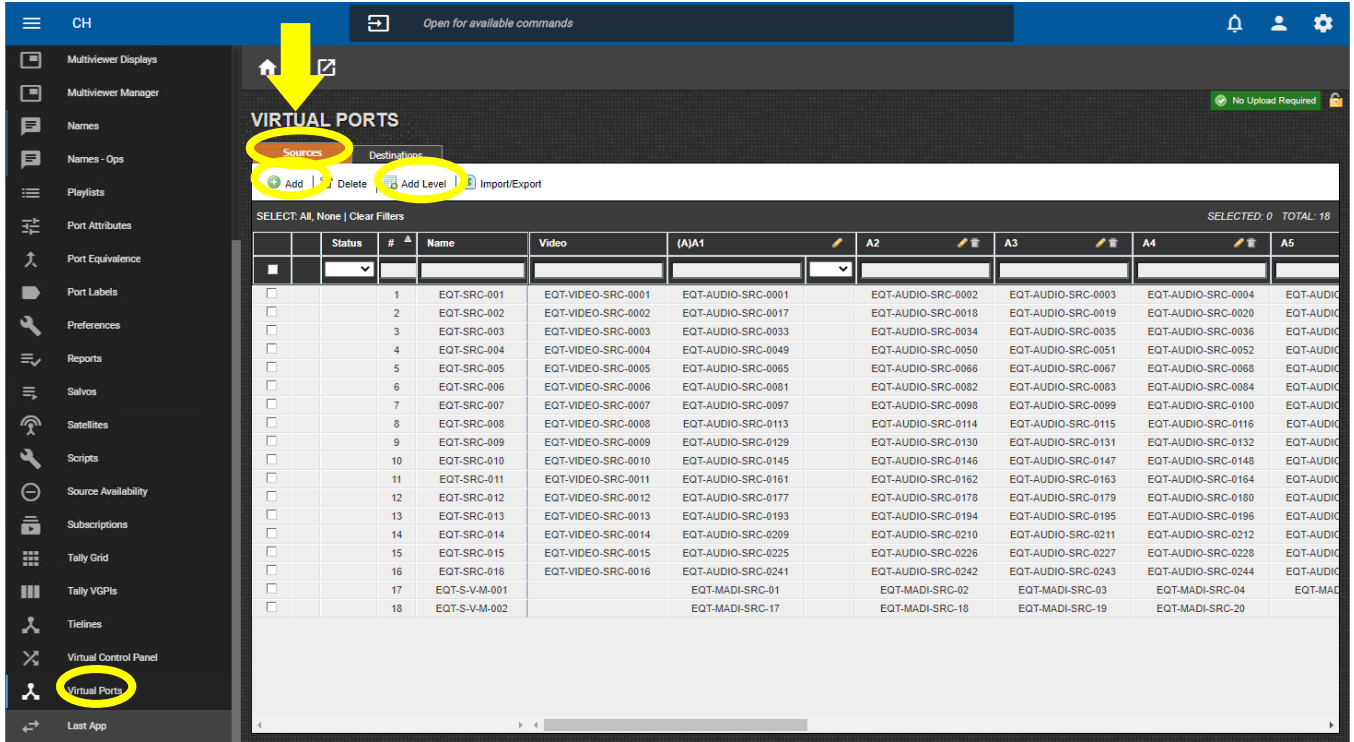
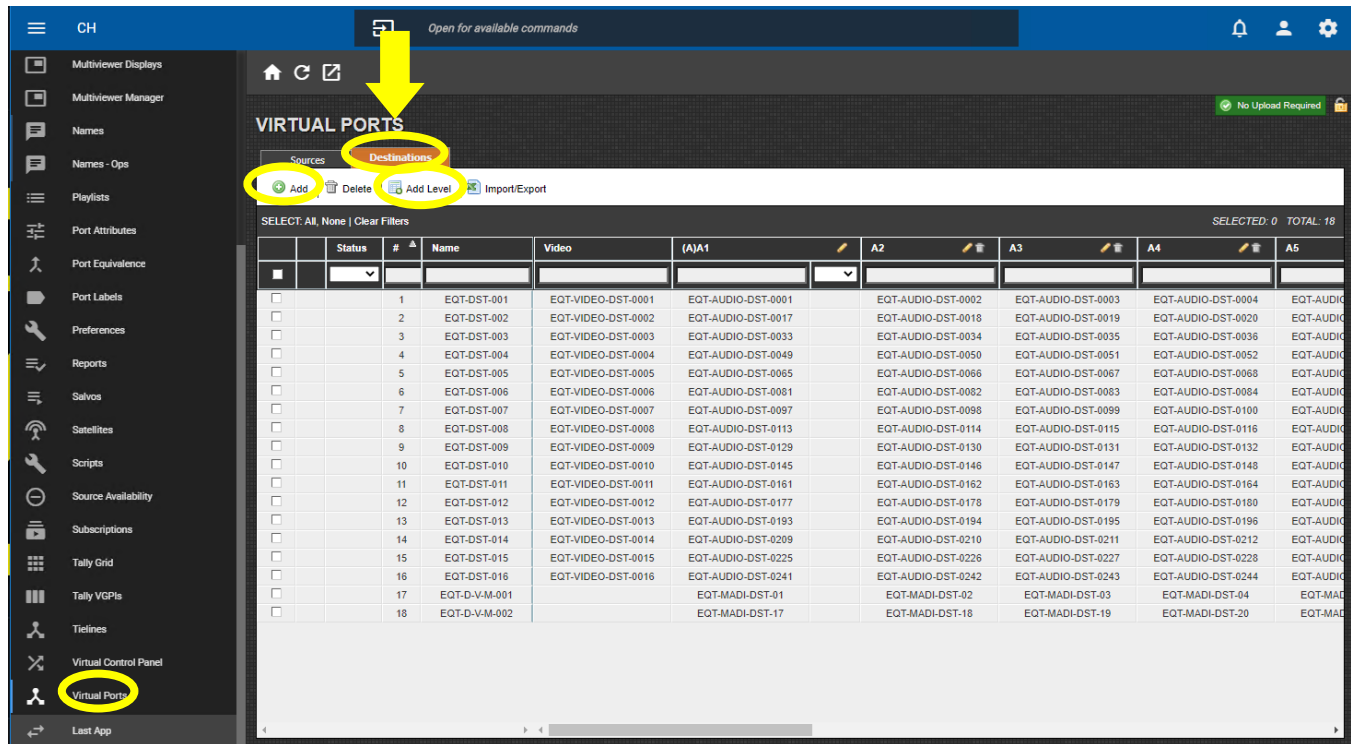

Figure 9-11 : MAGNUM - Virtual Ports Source
Figure 9-12 : MAGNUM - Virtual Ports Destinations
- Navigate to the Virtual Ports page. In the Sources section, click “Add” and enter the name of the virtual port. Repeat the process 20 times: 16 input video ports and 4 virtual MADI input ports (since MADI physical input port is only one). Click “Add Level” and include 16 levels (A1-A16), in order to reproduce the number of existing audio channels (total of 320 channels) – see Table 5-1 for details of audio channels per video. Assign a video source for each virtual input port (except MADI ports). Also, assign an audio source for each audio level (see details in Figure 9-11).
16. In the Destinations section, click “Add” and enter the name of the virtual port. Repeat the process 20 times: 16 output video ports and 4 virtual MADI output ports. Click “Add Level” and include 16 levels (A1-A16), in order to reproduce the number of existing audio channels (total of 320 channels) - see Table 5-1 for details of audio channels per video. Assign a video destination for each virtual output port (except MADI ports). Also, assign an audio destination for each audio level (see details in Figure 9-12).
**NOTE:** In case the sources and destinations were not proper assigned as depicted in Figure 9-11 and Figure 9-12, changing the sources in the Advanced Routes page will NOT be possible.